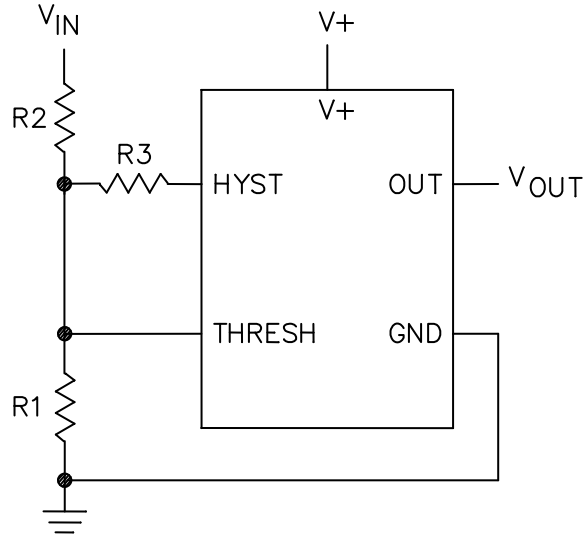

FIGURE 5. Basic overvoltage/undervoltage circuit.
3.5.5 Basic overvoltage/undervoltage circuit. The basic overvoltage/undervoltage circuit shall be as shown in figure 5.